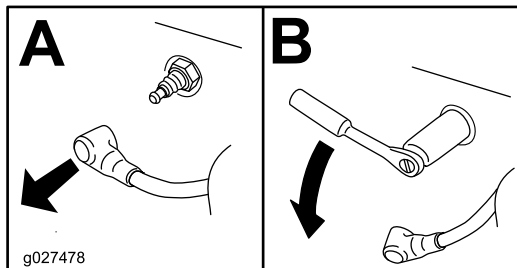

Figure 65
4. Remove the spark plug (Figure 65).